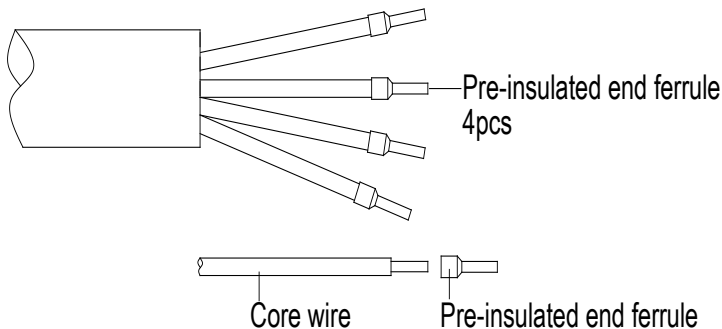

Figure 2.30 - AC Output and Ground Cable Set Up
(2) Connect the AC (L1, L2, L3) cables to the terminal block and use the OT type terminal to connect the ground cable to the external grounding point at the bottom of the wiring box. (see the 3rd graph in Figure 3-27) Set up the cables referring to Figure 2.30.